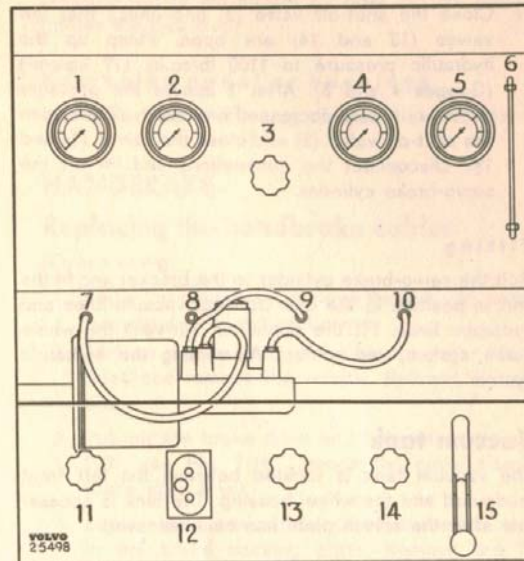

Fig. 7-27. Connections for testing
After assembling, the servo-brake cylinder should be tested. This can be done in a test-bench as shown in Fig. 7-27. Testing should preferably be carried out as follows:
1. Connect the vacuum line (7) to the servo-brake cylinder hydraulic inlet. When doing this, brake fluid should naturally be emptied from the cylinder. Plug the hydraulic outlet. Start the vacuum pump and open the vacuum valve (11). When a vacuum of 10.7 lb/sq.in. (0.75 kg/cm2) has been reached (Gauge 1), close the valve (11). The servo-brake cylinder should maintain a vacuum of at least 10 lb/sq.in. (0.7 kg/cm2) for five seconds. Then disconnect the vacuum line and open the hydraulic outlet.
2. Connect the line (9) to the servo-brake cylinder hydraulic inlet. Close the shut-off valve (3) and open the inlet valve (13). Check through the sight glass (6) that there is sufficient brake fluid for air-venting. Operate the pump (15) until brake fluid begins to run out of the servo-brake cylinder hydraulic outlet.
3. Connect the line (10) to the outlet and the vacuum line (7) to the vacuum connection, see Fig. 7-27. Open the valve (11) so that the gauge (1) shows 10.7 lb/sq.in. (0.75 kg/cm2). Check that the shut-off valve (3) is closed and that the valves (13 and 14) are open. Pump up the ingoing hydraulic pressure until the gauge (4) shows 498 lb/sq.in. (35 kg/cm2). The outgoing hydraulic pressure (Gauge 5) should then show at least 950 lb/sq.in. (67 kg/cm2). Then open the shut-off valve (3) when the gauges (4 and 5) should immediately return to zero. Repeat this test operation a few times.